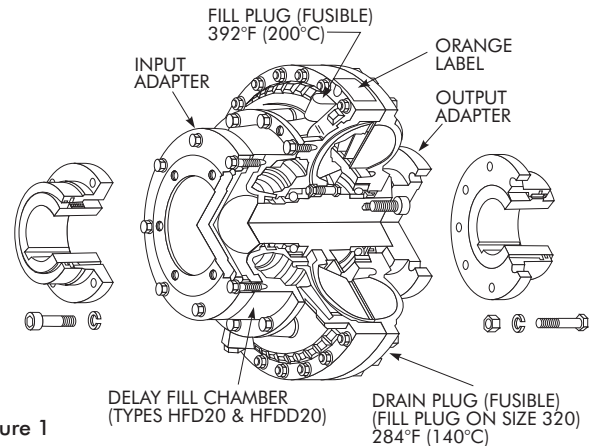

Figure 1
- A. The fluid coupling is shipped with input and output adapters assembled as shown in Figure 1, Page 1. NOTE: Size 185 does not require input adapter as gear coupling sleeve is fastened directly to the fluid coupling.